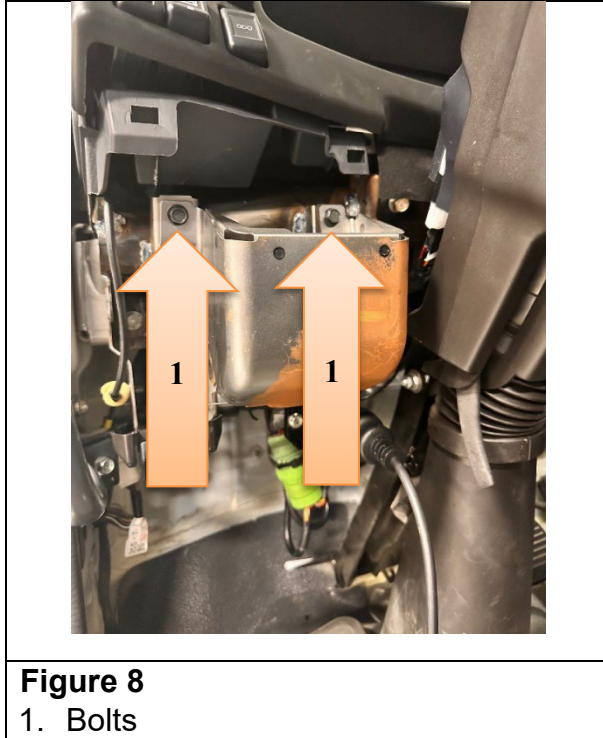

Figure 8
5. Remove the two (2) 10mm bolts and remove the knee bracket. (See Figure 8.)